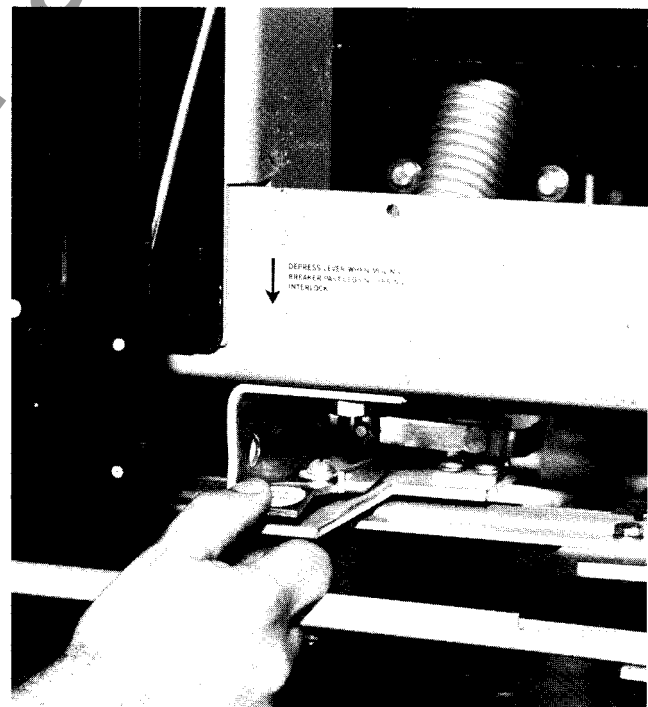

Fig. 5-12. Release lever used on manually operated breaker models in place of spring discharge interlock
**NOTE:** Manually operated breaker models do not employ a spring discharge interlock. It is unnecessary because their operating mechanism never statically position the springs in a fully charged state. However, to provide the necessary means for mechanically securing the breaker in the DISCONNECTED position, a position stop is employed. It has a release lever (Fig. 5-12) marked "Push to Withdraw" and is located in the same place as the spring discharge release lever on electrically operated breakers.
3. Open the door. On electrically operated breakers, depress the spring discharge lever (Fig. 5-12) to discharge the breaker's closing springs. While holding this lever depressed, pull the breaker all the way out to its WITHDRAWN position. On manually operated breakers, this release lever is labeled "PUSH TO WITHDRAW."